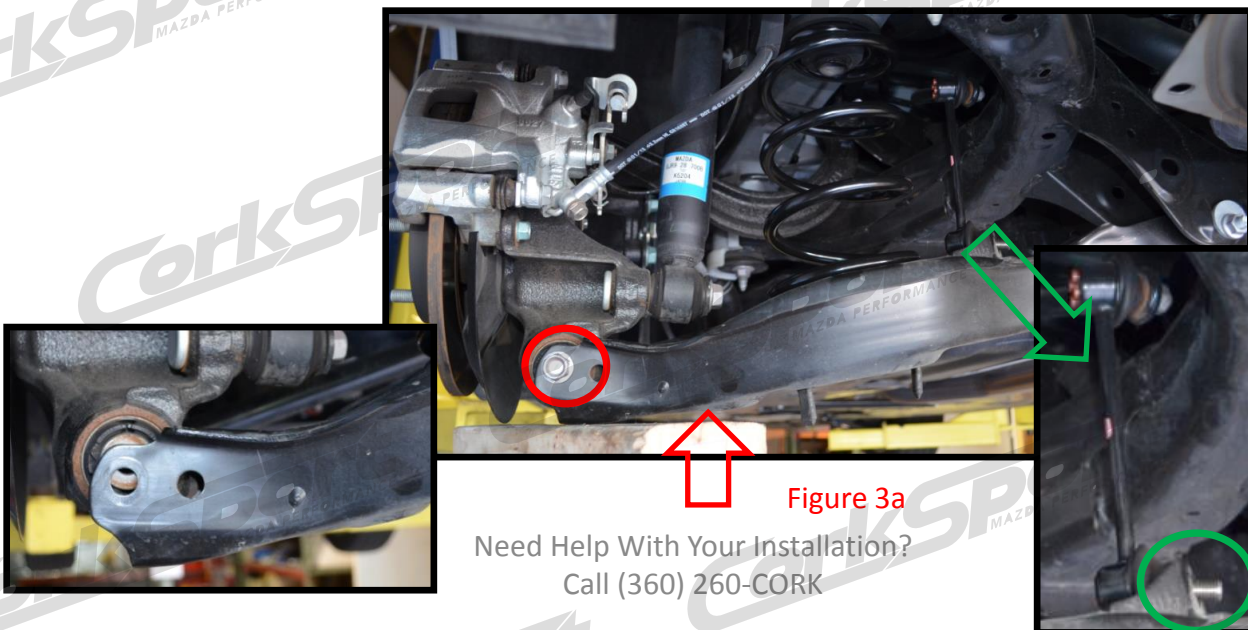

Figure 3a
- b) Place a jack under the rear control arm and jack up the control arm slightly. Shown with **Red Arrow** in **Figure 3a**.
- c) Remove the sway bar end link from the control arm with a 14mm wrench. (**Green Circle** in **Figure 3a**)
- d) Remove the 17mm bolt that holds the spindle to the control arm (**Red circle** in **Figure 3a**).
- j) Re-connect the sway bar end link. (**Green Circle** in **Figure 3a**)
- b) Place a jack under the rear control arm and jack up the control arm slightly. Shown with Red Arrow in Figure 3a.
- c) Remove the sway bar end link from the control arm with a 14mm wrench. (Green Circle in Figure 3a)
- d) Remove the 17mm bolt that holds the spindle to the control arm (Red circle in Figure 3a) using a 17mm socket and ratcheting wrench.
- j) Re-connect the sway bar end link. (Green Circle in Figure 3a)